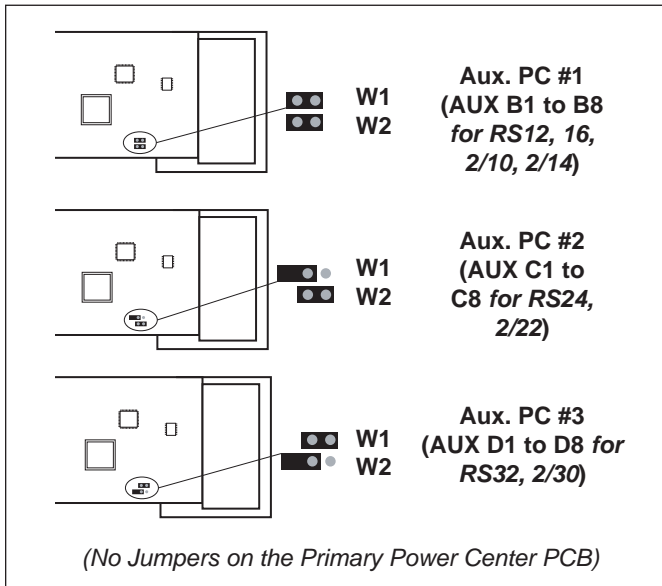

Figure 19. Setting Jumpers for Multiple Auxiliary Power Centers
- Never put more than two (2) wires into each of the pins of the red, 4-pin terminal bar (use a Jandy Multiplex Board).
- If more than one Auxiliary Power Center is installed, set the jumpers as shown in Figure 19.